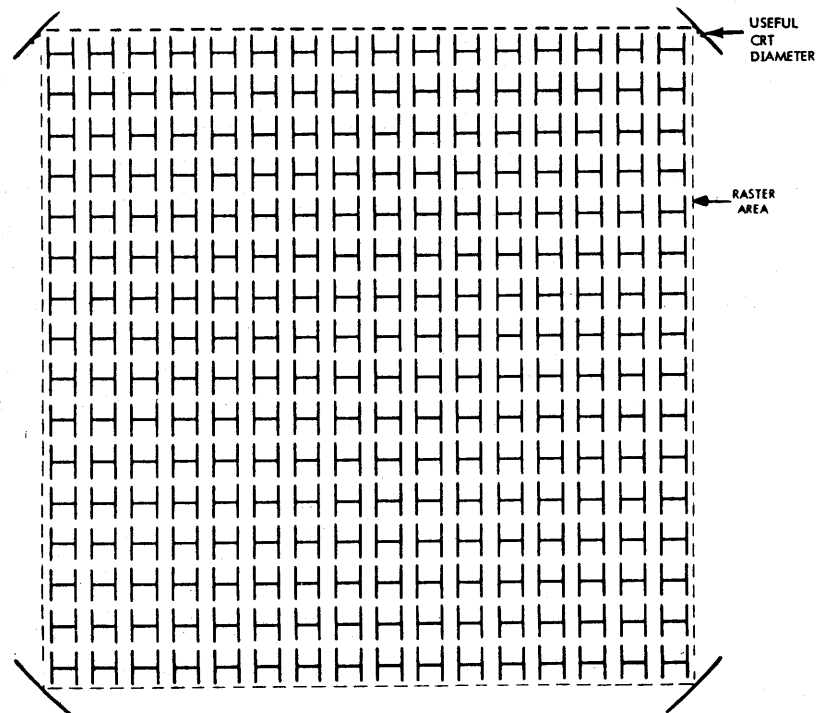

Figure 4-1. Test Pattern 1
Test pattern 1, figure 4-1, is recommended for Display Console maintenance. It provides a means of ascertaining the equipment is functioning properly.
- (a) Program a test pattern, figure 4-1, to determine if the linearity of either the X or the Y axis varies.
- (a) Program a display to correspond to test pattern 1, figure 4-1.
- (a) Display test pattern 1, figure 4-1.
- (a) Generate test pattern 1, figure 4-1, or a convenient test pattern.